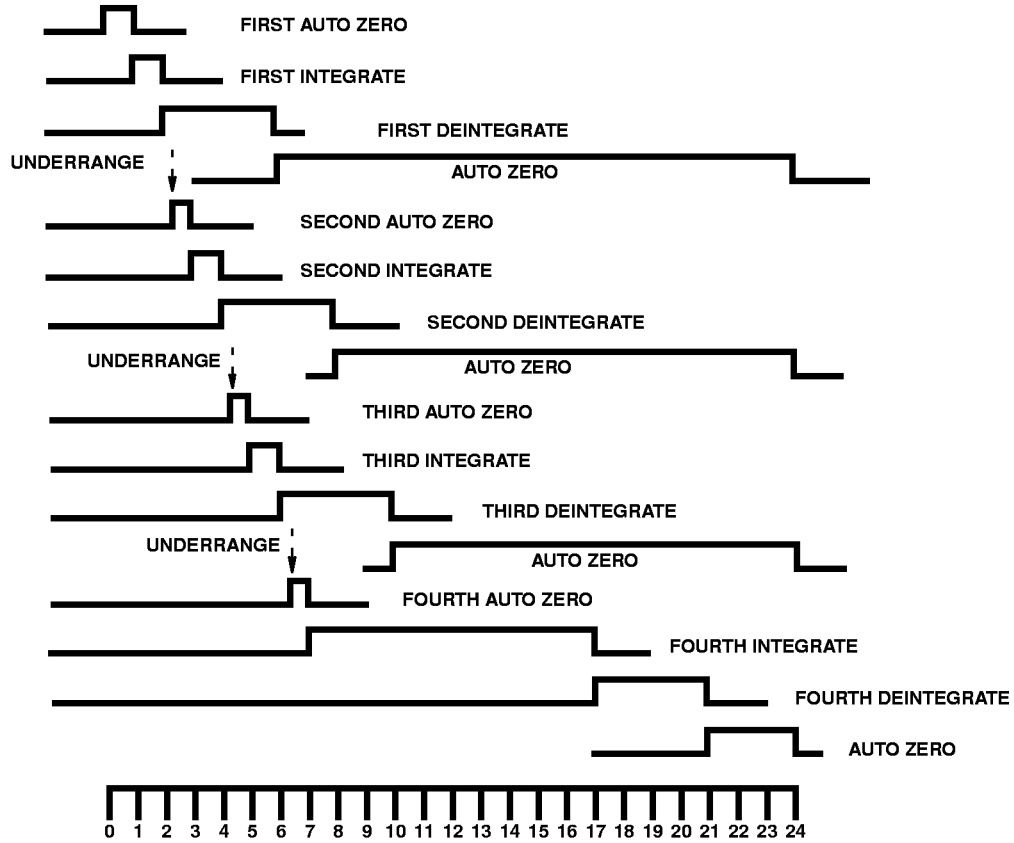
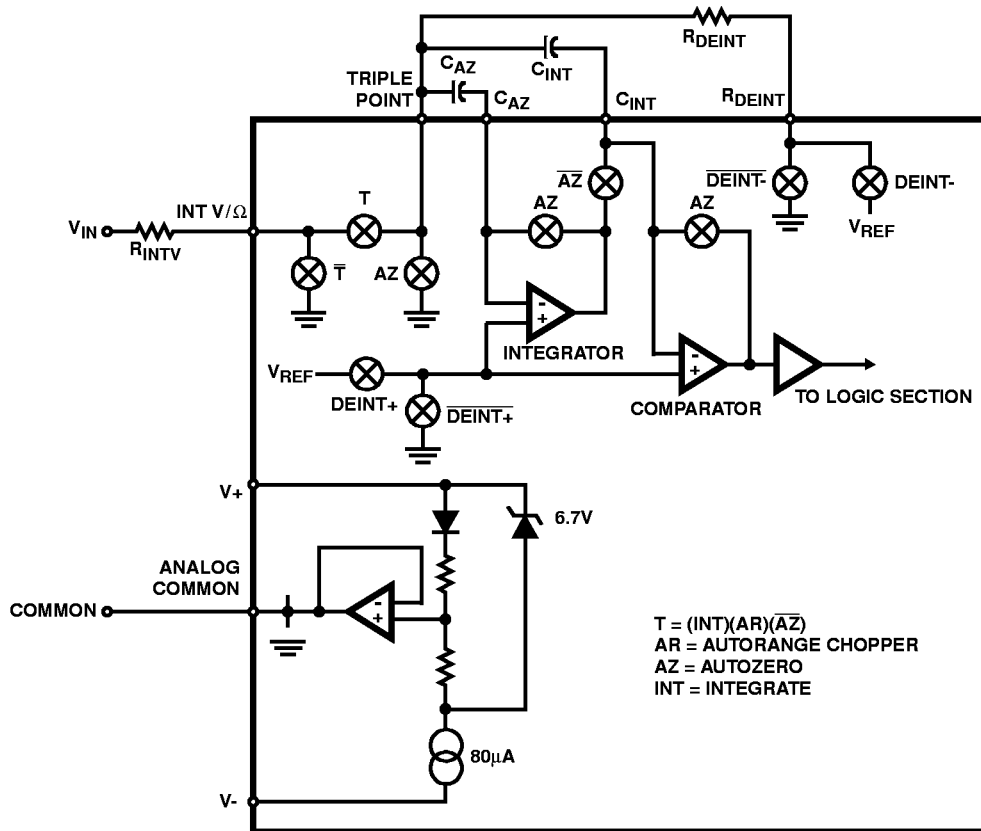

FIGURE 1. LINE FREQUENCY CYCLES (1 CYCLE = 1000 INTERNAL CLOCK PULSES = 2000 OSCILLATION CYCLES)
FIGURE 3. DETAILED CIRCUIT DIAGRAM FOR DC VOLTAGE MEASUREMENT
Electrical Specifications V+ = 9V, T_A = 25°C, V_{REF} adjusted for -3.700 reading on DC volts, test circuit as shown in Figure 3.
Only those portions of the analog section which are used during DC voltage measurements are shown in Figure 3. As shown in the timing diagram (Figure 1), each measurement starts with an autozero (AZ) phase. During this phase, the integrator and comparator are configured as unity gain buffers and their non-inverting inputs are connected to Common. The output of the integrator, which is equal to its offset, is stored on C_{AZ} - the autozero capacitor. Similarly, the offset of the comparator is stored in C_{INT}. The autozero cycle equals 1000 clock cycles which is one 60Hz line cycle with a 120kHz oscillator, or one 50Hz line cycle with a 100kHz oscillator.